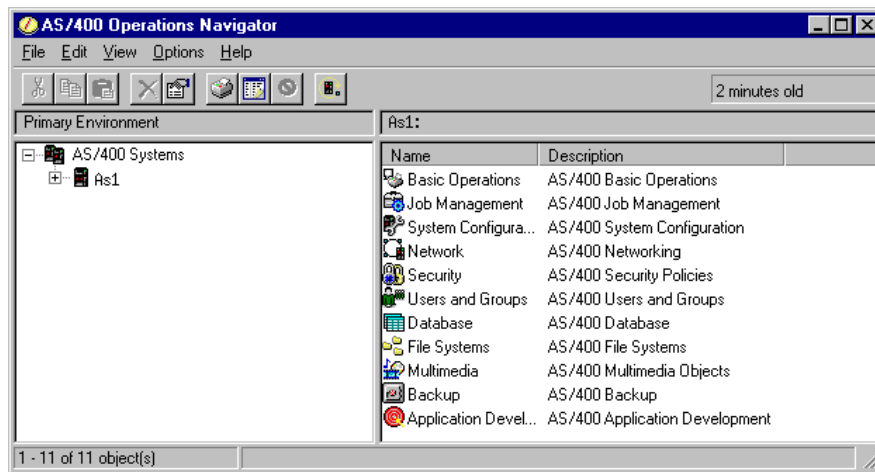

Figure 66. AS/400 Operations Navigator - Configure DHCP Server
2. Click **As1** to select the system. The display shown in Figure 66 on page 158 appears.